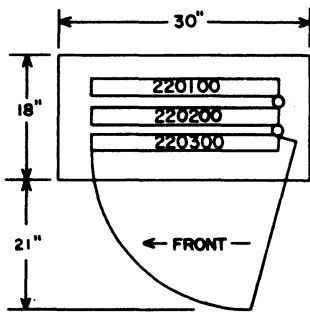

Figure A-1. Top View
The cabinet is 29 inches high, 18 inches wide, and 30 inches deep. There must be enough clearance to allow the top of the cabinet and the chassis to be opened (figures A-1 and A-2). Weight of the 162(S) is 350 pounds.